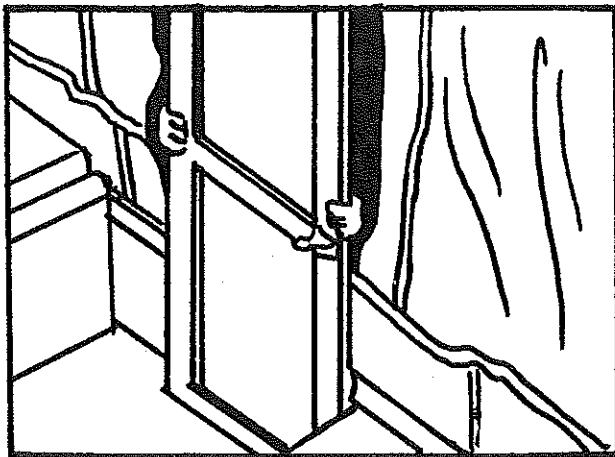

FIGURE 20
26. Grasping the door frame with both hands, one on either side, lower screen door into doorframe track at base of doorway. See Figure 20. Unlock screen door latch and step inside.